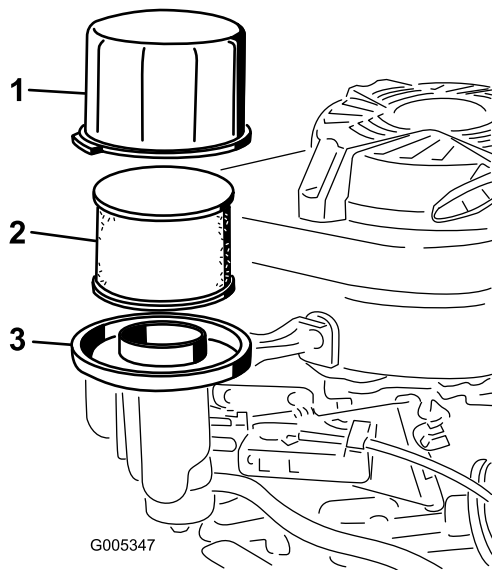

Figure 20
3. Remove the cover and clean it thoroughly (Figure 20).
4. Remove the foam pre-cleaner and the paper-air filter from the air-cleaner base (Figure 20)